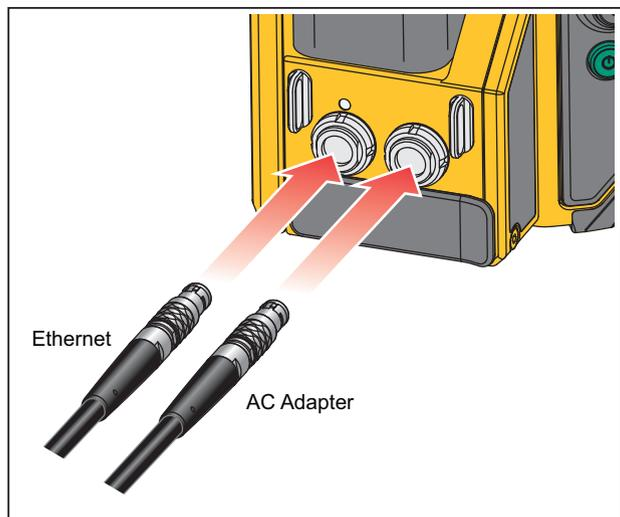

Figure 1-2. Ethernet Cable and AC Adapter
- The 8-pin LEMO connector (blue mark) is connected to the left 8-pin LEMO socket (Figure 1-2, blue mark) on the camera.
The 14-pin connector of the ac adapter is plugged into the right-hand side LEMO socket with the red mark pointing to the top. See Figure 1-2.